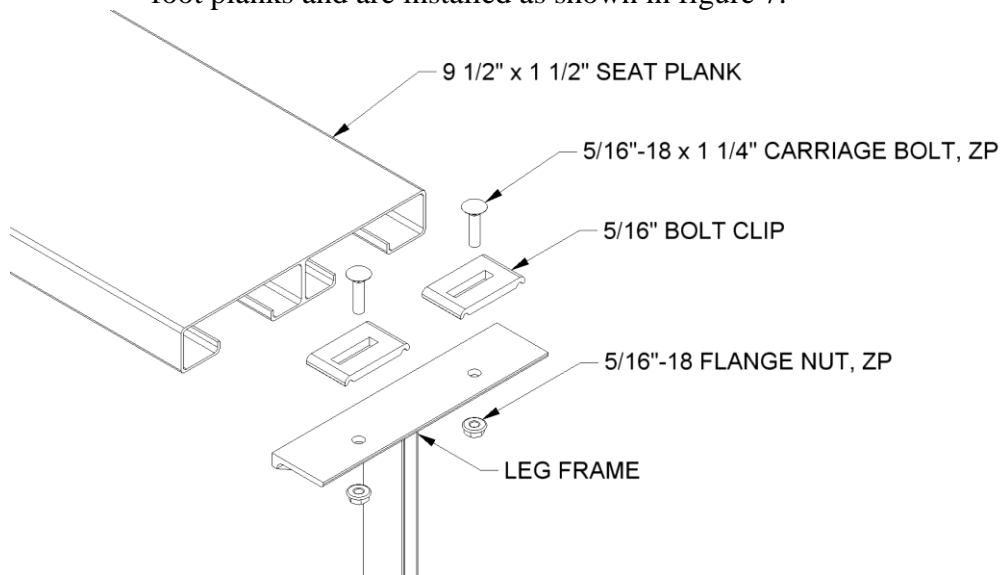
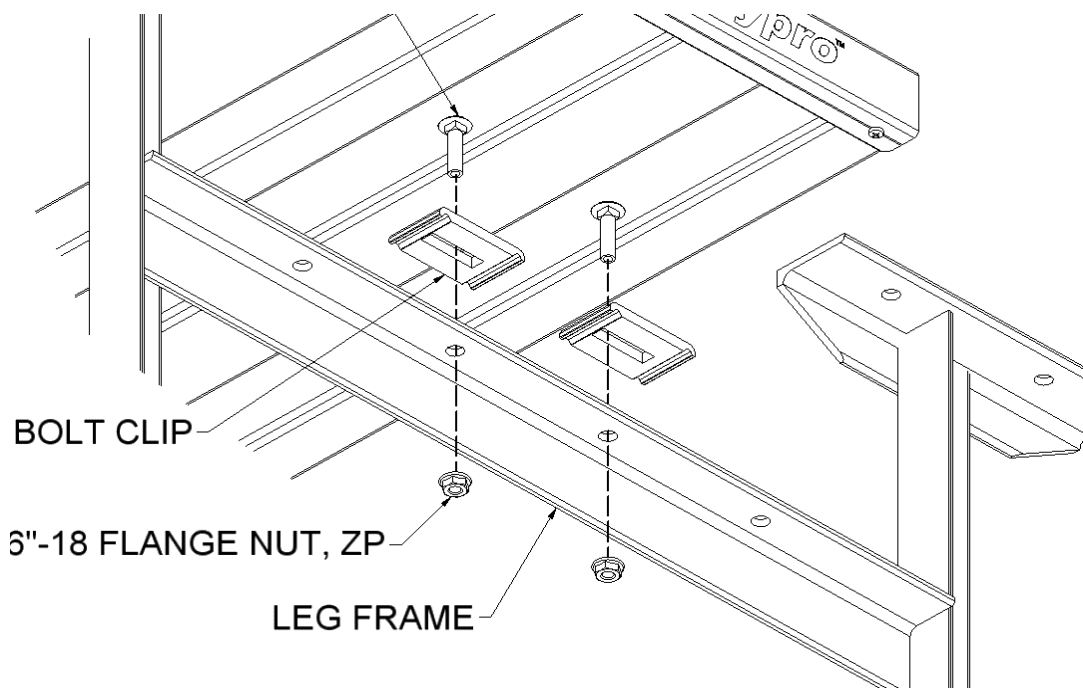
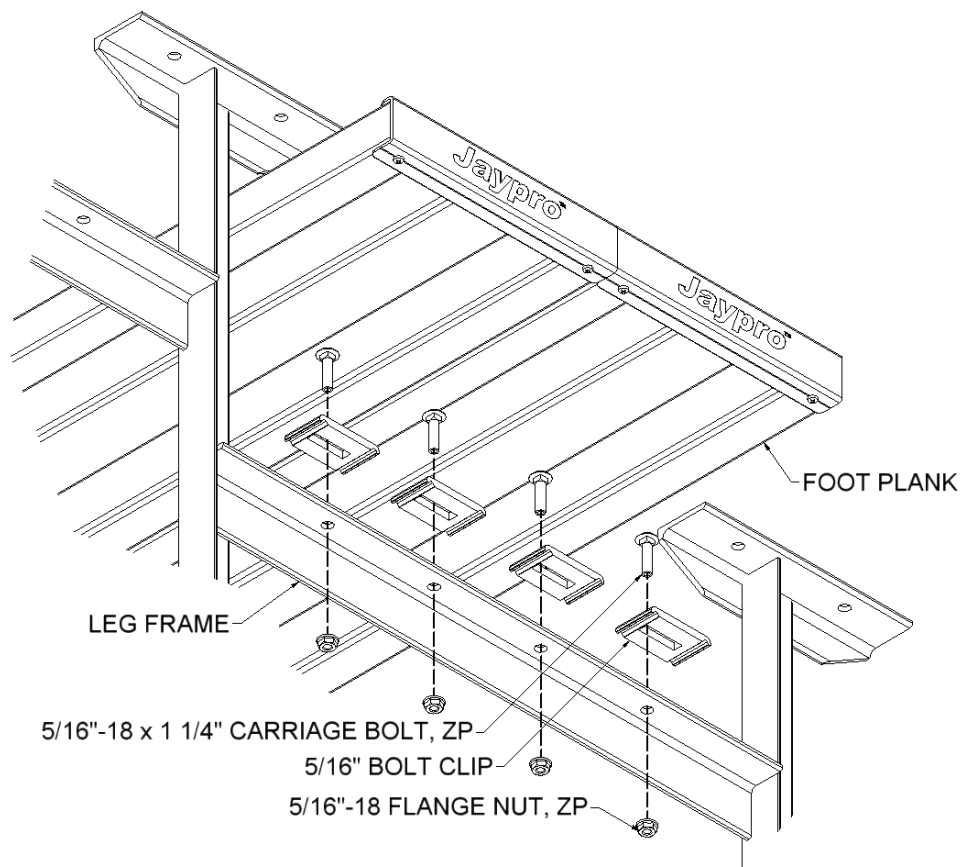

FIGURE: 5
FIGURE: 6
FIGURE: 7
5. Making sure the undercarriage frame is square and plumb, install the seat and foot planks. The seat and foot planks are best installed starting from the front seat and working towards the back. Use the hardware and bolt clip as shown in figure 5. Position planks so they are centered on the frame, with equal amount of overhang on each end. Note that standard bleachers (BTBB-3) have a single foot plank, which is centered on the support frame, see figure 6. Preferred bleachers (BTDP-3) have double foot planks and are installed as shown in figure 7.